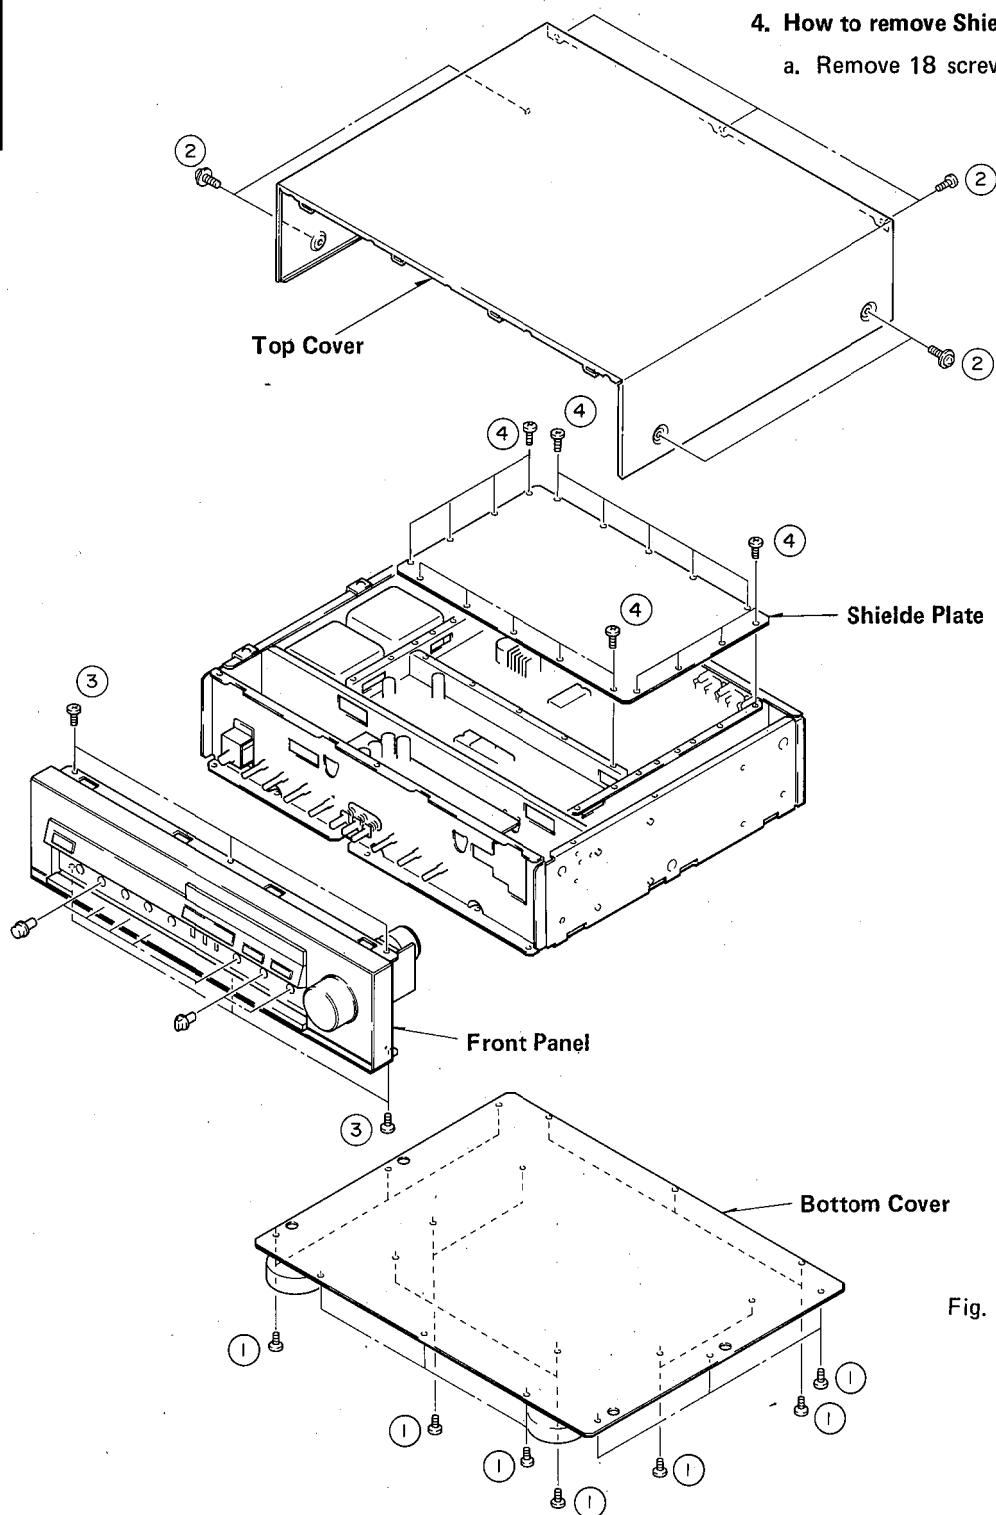

Fig. 1
- Remove 18 screws ① of Fig. 1.
- Remove 7 screws ② of Fig. 1, remove the cover trying to lift in up.
- Remove 6 screws ③ of Fig. 1, and remove the Front Panel trying to pull it toward you.
- Remove 18 screws ④ of Fig. 1.
- a. Remove 18 screws of ① of Fig. 1.
- a. Remove 3 screws of ② of Fig. 1, and remove the Top Panel B.
- b. Remove 4 screws of ③ of Fig. 1, and remove the Top Panel A.
- c. Remove 6 screws of ④ of Fig. 1, and remove the Front Panel trying to pull it toward you.
- a. Remove 16 screws of ⑤ of Fig. 1.
- a. Remove 6 screws of ⑥ of Fig. 1.